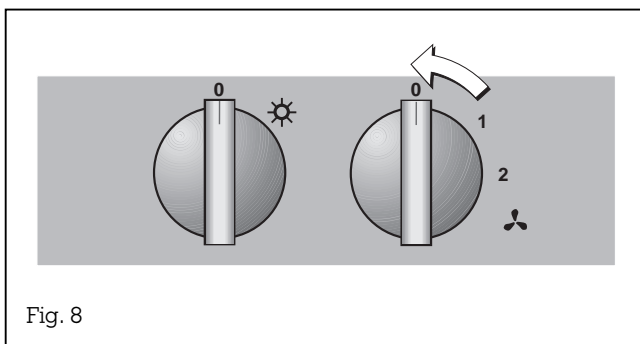

Fig. 8
- Turn the “Ventilation level” control knob to the 0 position (Fig. 8).